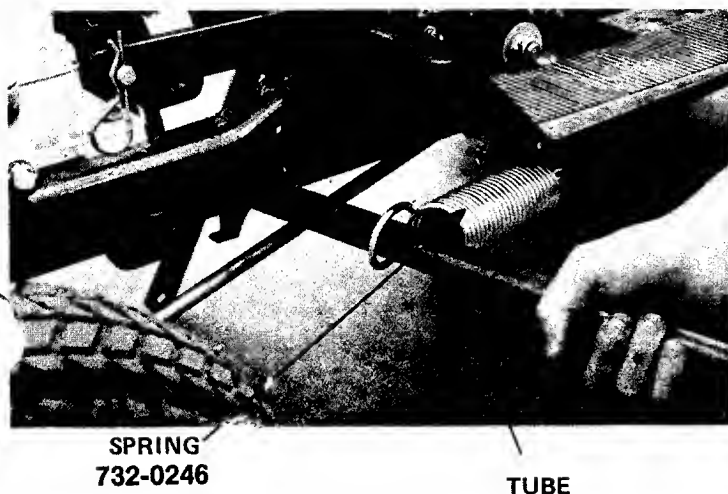

FIGURE 15
6. With a tube (as shown in figure 15), extend spring forward and hook over the welded clevis pin on the frame. (See figure 15.)